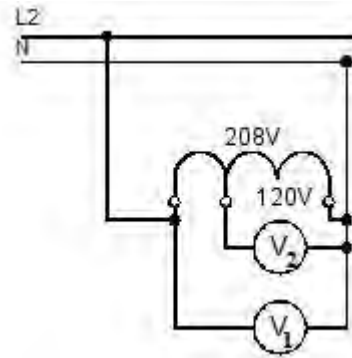

Figure 1:
1. Wire up the circuit in accordance with the set-up and wiring diagram of Figure 1.